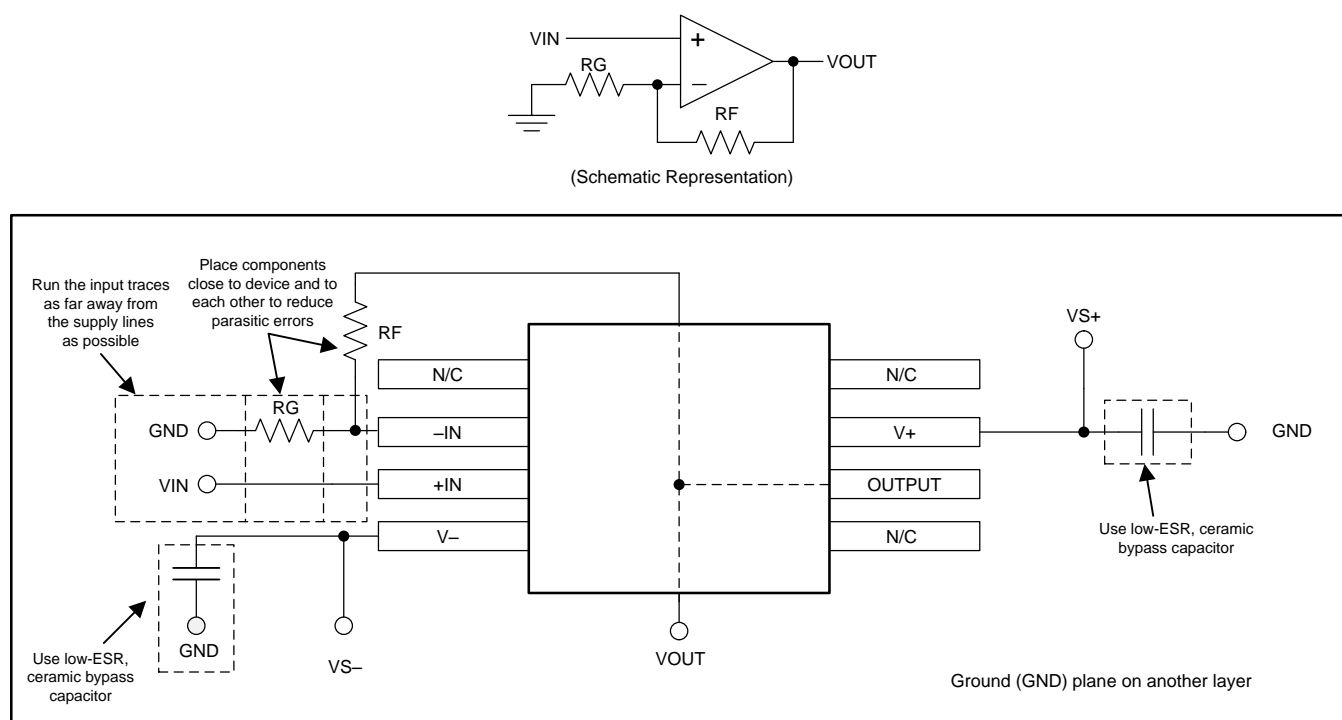

Figure 32. Operational Amplifier Board Layout for Noninverting Configuration
- Place the external components as close to the device as possible. Keep RF and RG close to the inverting input to minimize parasitic capacitance, as shown in Figure 32.